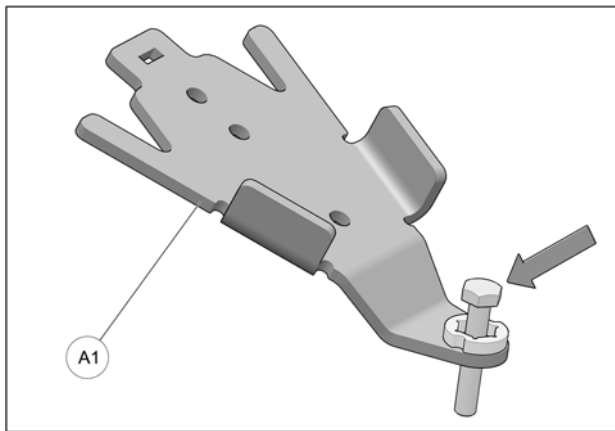

Fig. 9
4. Insert bolt in front anchor brackets (A1-A2) as shown in Fig. 9